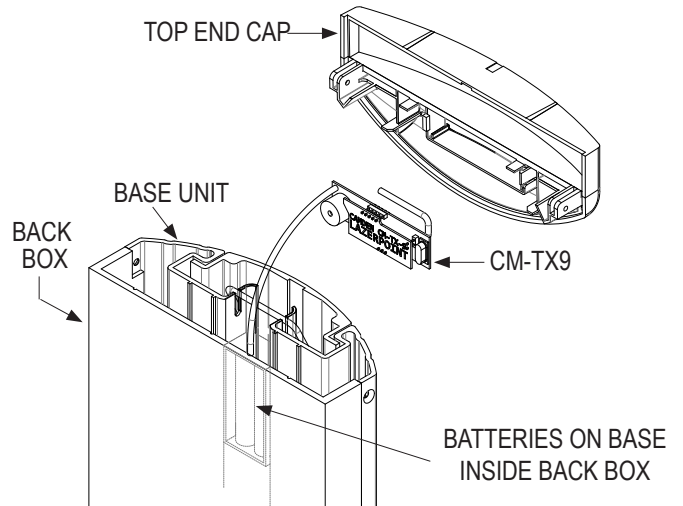

Figure 4.6 Transmitter Assembly
IF USING LAZERPOINT™ RF: (Figure 4.6)
4. Slide the battery and the extra wiring into the center (rear) channel provided. Do not slide all of the wire into the channel so that the cap can hang off to one side while you perform the next step. (Figure 4.6)